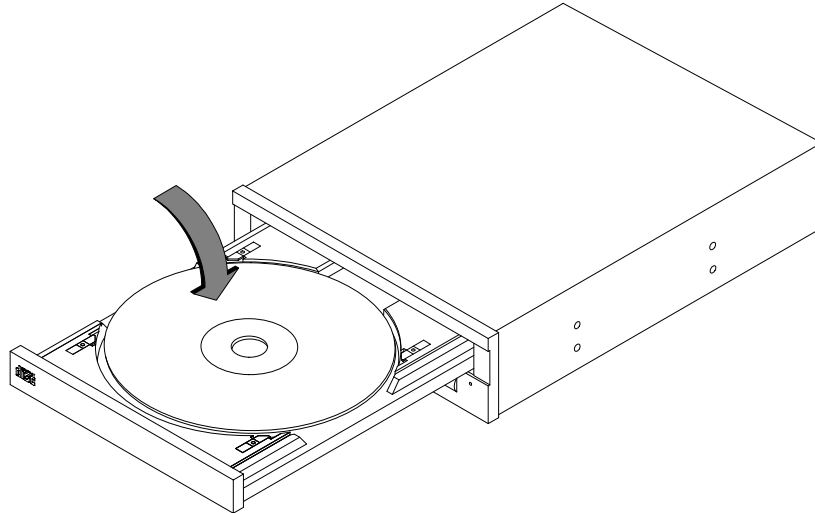

Figure 2-3. Placing the CD-ROM Disc in the Disc Tray (Horizontal Mount)
4. Hold the disc by the edges with the label side up and place it in the disc tray as shown in Figure 2-3.